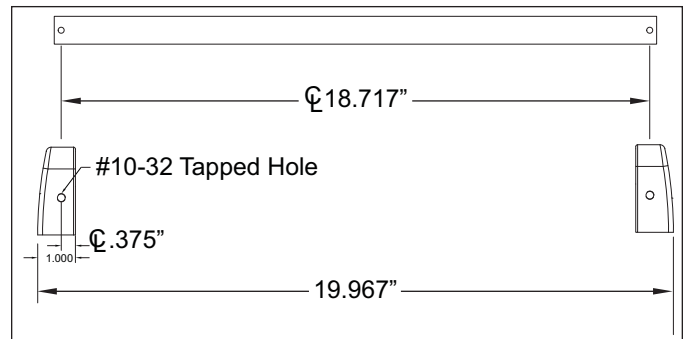

Figure 5. Pro Handle Dimensions
1. Mark custom panel to locate the drill holes using the center-line dimensions from Figure 5. Drill two (2) 7/32" to 1/4" holes